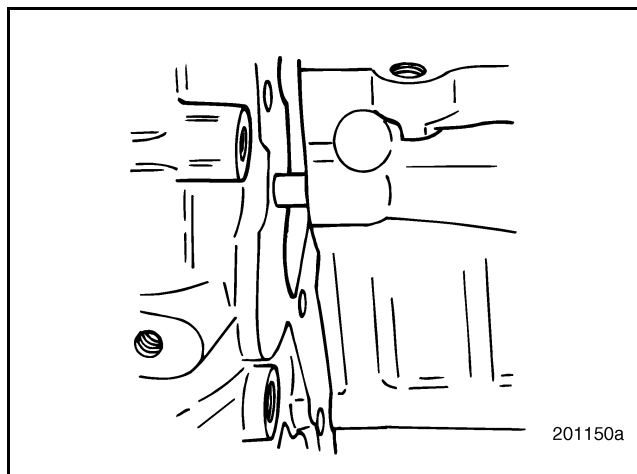

Figure 249 — Positioning Flywheel Housing
5. Align the flywheel housing on the dowels and position it flush against the cylinder block surface. Refer to Figure 249.